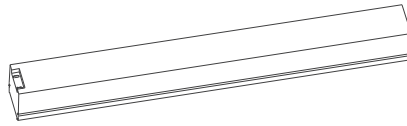

Figure 5
3. Cut off the adhesive on the back of the PCB to reveal the welding points, as shown in Figure 5